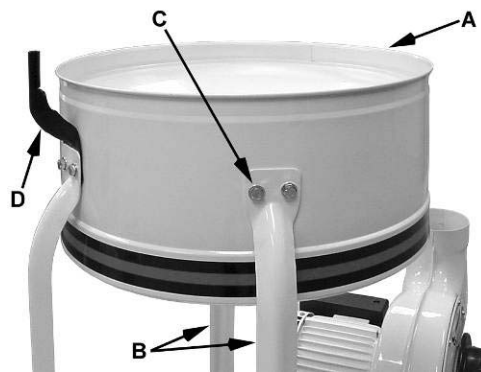
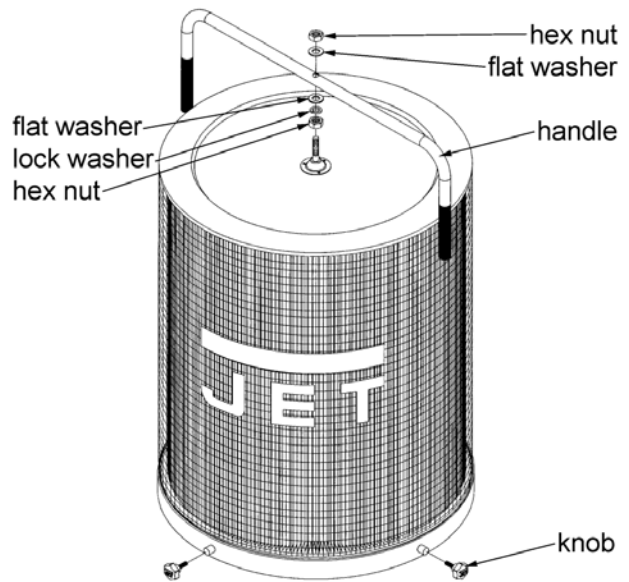

Figure 5
Figure 10
6. Install the *housing* (A, Fig. 5) to two *support legs* (B, Fig. 5) using four M8 x 16 hex cap bolts, eight M8 flat washers, and four M8 hex nuts (C, Fig. 5). Be sure hose opening faces fan housing.
Note: For models DC-1200BK or DC-1200-3BK only – Before attaching third support bracket place the *hanger bracket* (D, Fig.5) between the support bracket and the housing.
1. Mount the handle onto the canister filter with two M10 hex nuts, two M10 flat washers, and a M10 lock washer (Figure 10).
2. Mount the canister filter on top of the *collector housing* (A, Fig. 5) and tighten the knobs on the *canister filter* (Figure 10).